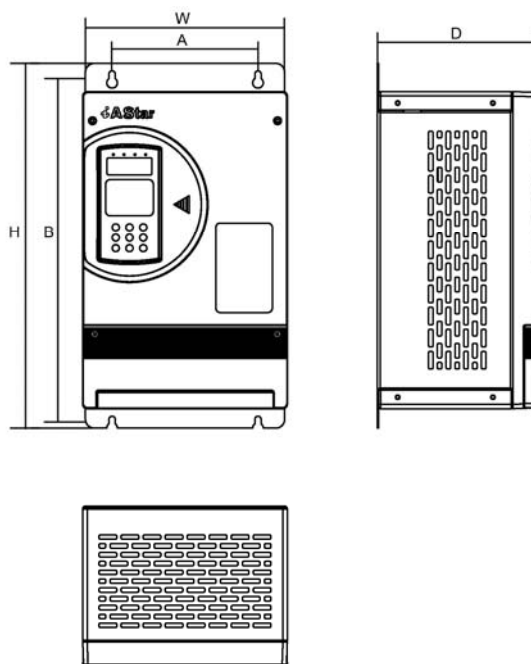

Figure 2.1 Installation dimension and weight of Inverter
Installation dimensions and weights of the Inverter are shown in Figure 2.1 and Table 2.6 and Table 2.7.
- ① Check the four mounting holes on the Inverter. Refer to the installation dimensions and weights in Figure 2.1.